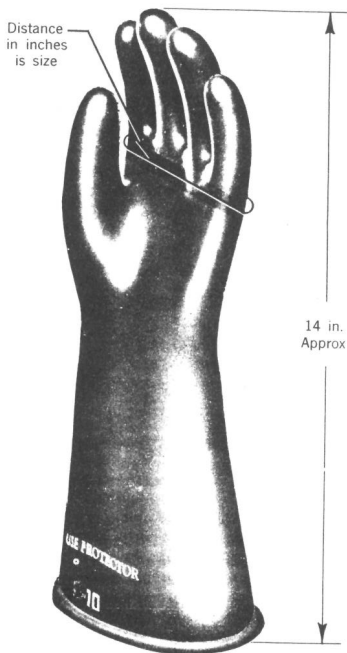

FIGURE 1. Insulating Glove.
- 2.01 All types of insulating gloves are of the gauntlet type and are made in sizes 10, 11, and 12. The size indicates the approximate number of inches around the glove, measured midway between the thumb and finger crotches. The length of each glove, measured from the tip of the second finger to the outer edge of the gauntlet, is approximately 14". See Figure 1.